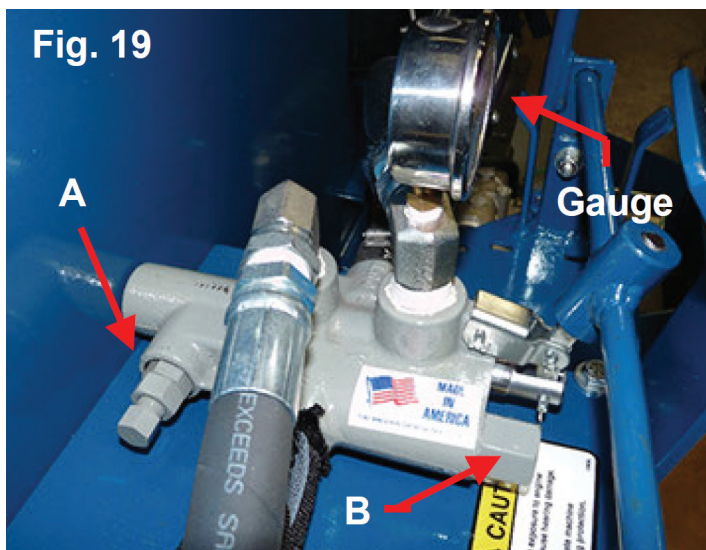

Fig. 19
2. Normal hydraulic pump pressure at the gauge is 2400-2500 P.S.I. when the ram is fully extended. If adjustment is needed remove the cap nut at "B" (in Fig. 19) and use an allen head wrench to make an adjustment to the hydraulic pump pressure. To increase pressure turn the screw in 1/4 turn. To decrease pressure turn the screw out 1/4 turn.